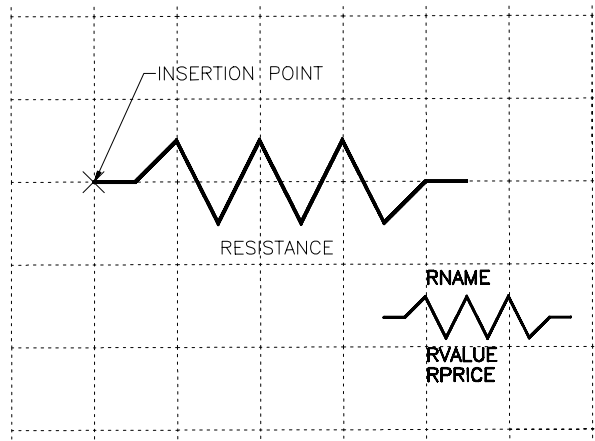

Figure 17-53 Drawing of a resistor for Exercise 1
1. Draw the resistor, as shown in Figure 17-53.
3. Define the attributes, as shown in the preceding table, and position the attribute text as shown in Figure 17-53.